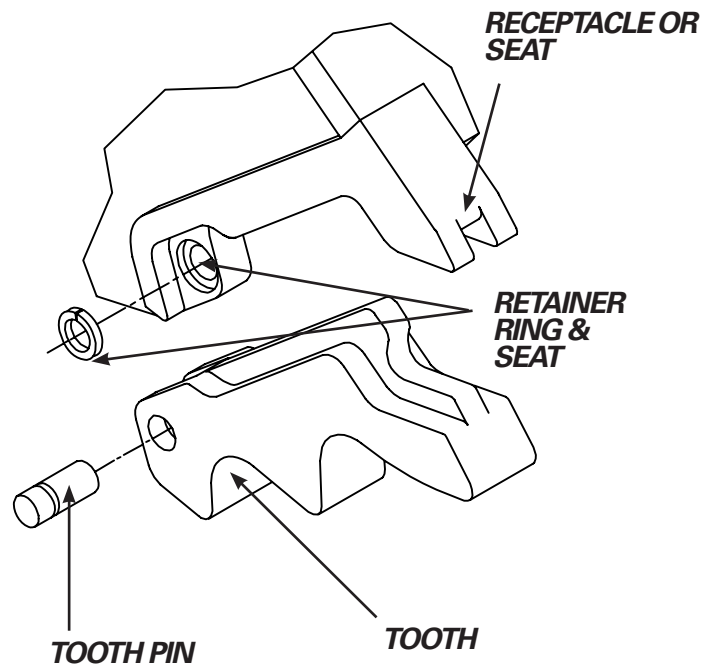

FIGURE 5-6
3. Use a soft metal drift (such as brass) and a mallet to drive out the tooth pin (Figure 5-6).